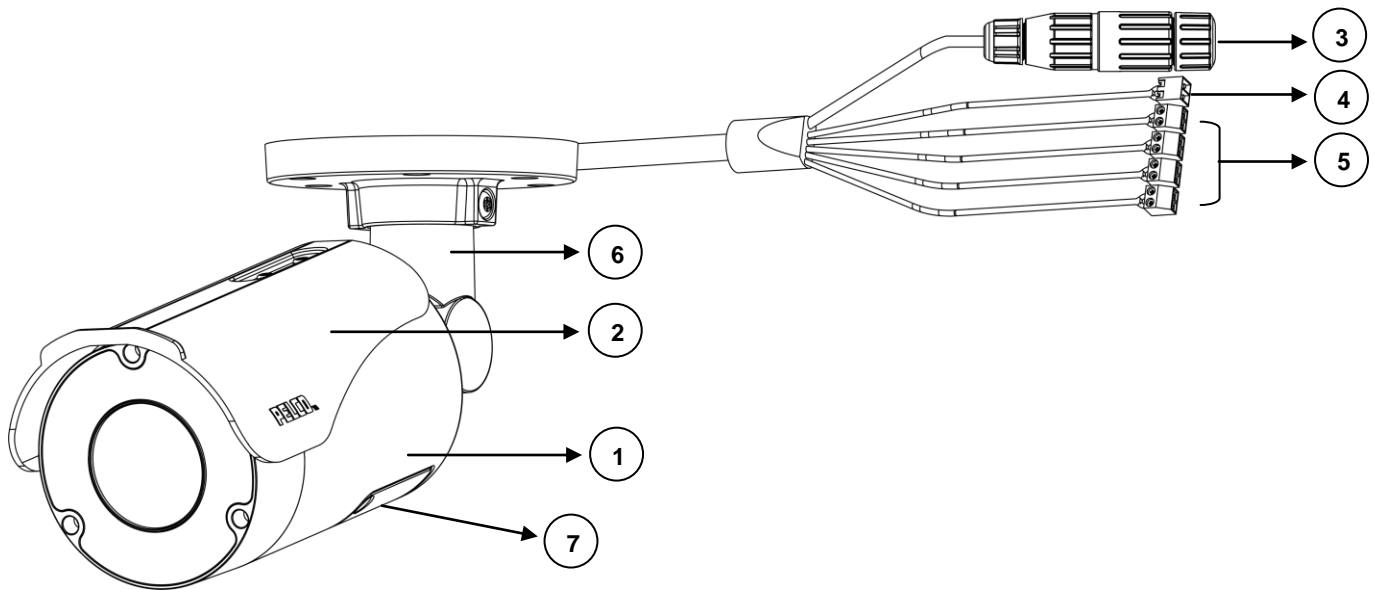

FIGURE 1-2: CAMERA CONNECTIONS AND FEATURES 1/2
9. **Ethernet / PoE:** The port in the middle is connected to a PoE cable. The other side of this cable is the RJ-45 Network Port demonstrated on Figure 1-2 item #3.
11. **Reset Button (R):** Press the button for 1 second to reboot the camera.
12. **Default (D):** Press the button for 6 seconds to restore the camera's settings back to the factory default.